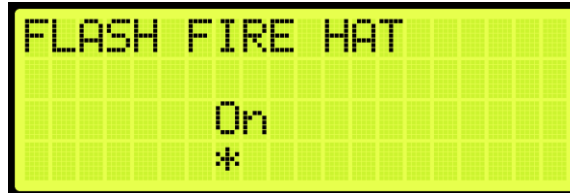

Figure 595: FLASH FIRE HAT Menu
5. From the FLASH FIRE HAT menu, scroll and select On (See Figure 595).